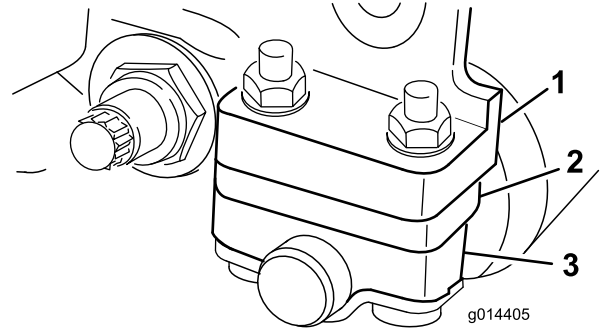

Figure 12
1. Adjust the rear roller brackets to the desired height-of-cut range by positioning the required amount of spacers below the sideplate-mounting flange (Figure 12) per the Height-of-Cut and Bedknife Selection Charts (page 12).